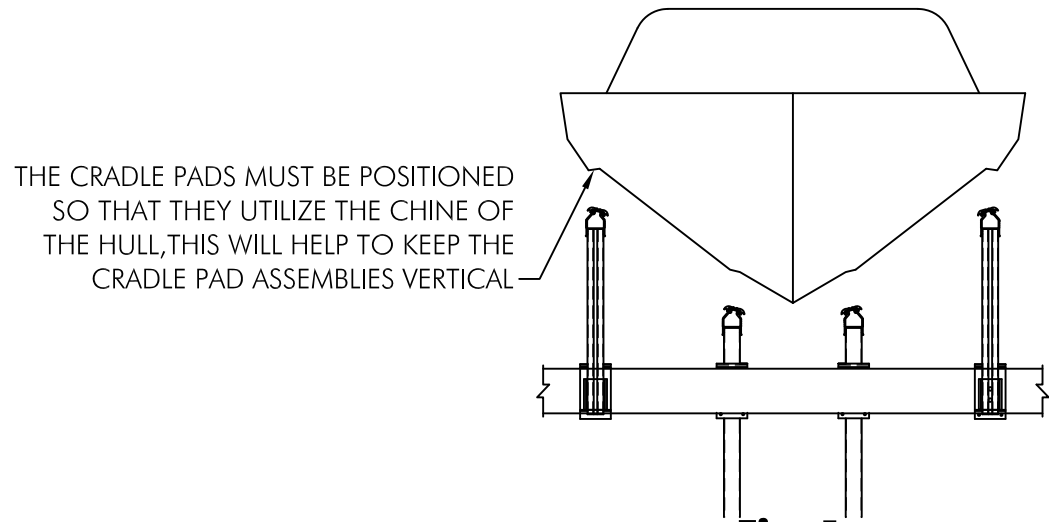

Fig. 1
□ Locate the (4) cradle pad assemblies, (2) 29.75" for the front cradle beam and (2) 39.75" for the rear cradle beam so that they fit the hull of the boat as shown in Fig. 1. Once the cradle pads are in the desired location, torque the 3/8 x 4" bolts to 35 ft./lbs. NOTE: Due to the large variety of hull designs, cradle pad placement will vary. Pads must be placed to utilize the chine of the hull for proper support. The 36" support tubes may need to be cut off to allow full cradle travel once proper placement is established.